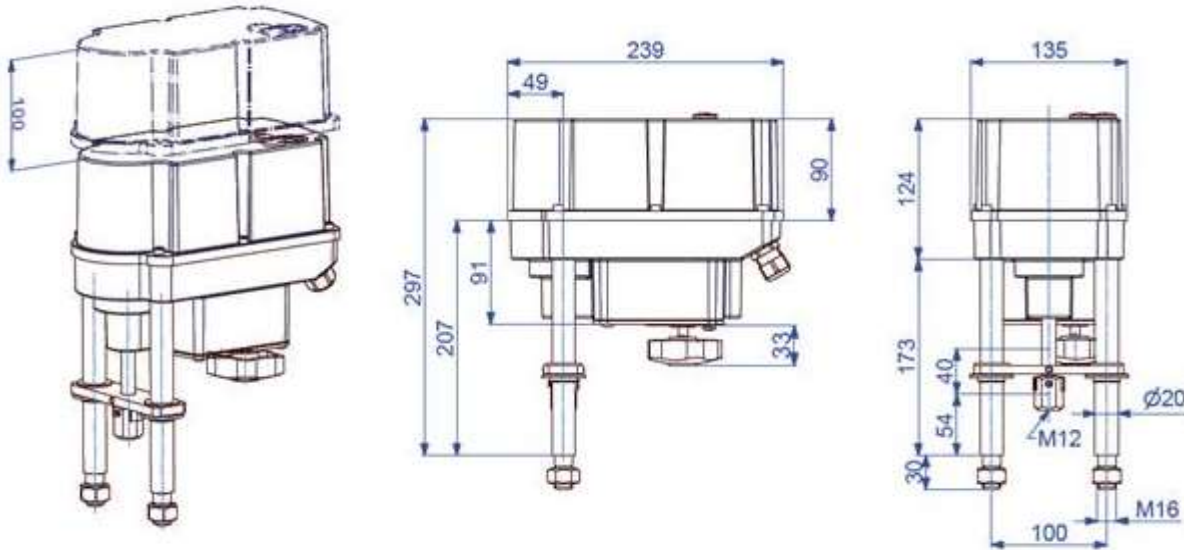

Figure 1: Installation dimensions
- The actuators must be installed with sufficient clearance to remove the hood (Figure 1).